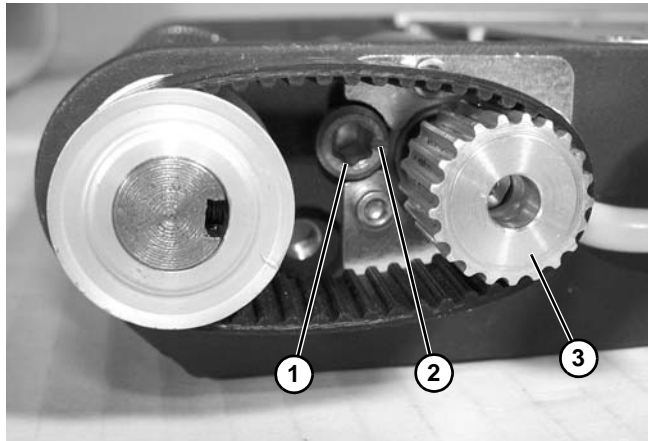
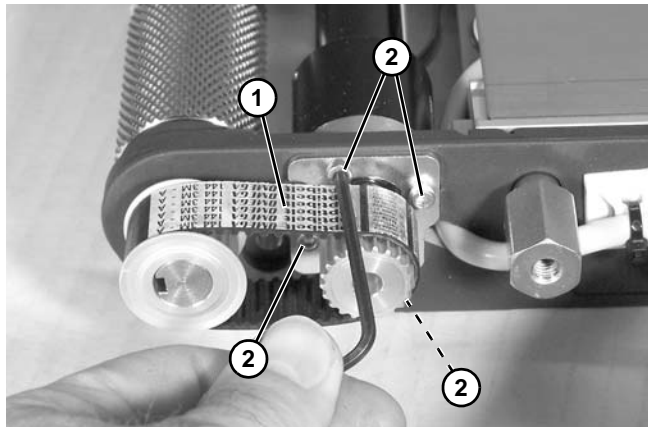

Figure 101
Figure 102
12. Tighten timing belt tension cam (Figure 101, item 1), making certain that pointer (Figure 101, item 2) on cam is pointing towards the motor drive spindle (Figure 101, item 3).
13. Rotate tension cam (Figure 101, item 1) to fully tension the timing belt (Figure 102, item 1). Tighten four clamp plate screws (Figure 102, item 2) to 15 in-lb (1.7 Nm) to secure position.